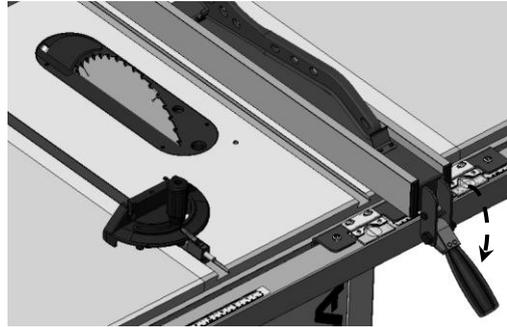

Fig. 12
1. Slide the fence to the right T-slot on your saw table top. Lock down the fence handle and make a visual check that the fence is parallel with the T-slot all along its length. Also, you can place a small 3/4" thick block of wood, upright into the T-slot and slide it from the front to the back checking its distance from the left edge of the fence Fig. 12.